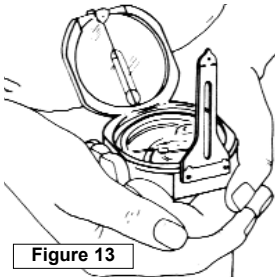

Figure 13
3. Open large sight, until perpendicular to the body. (Fig 13)